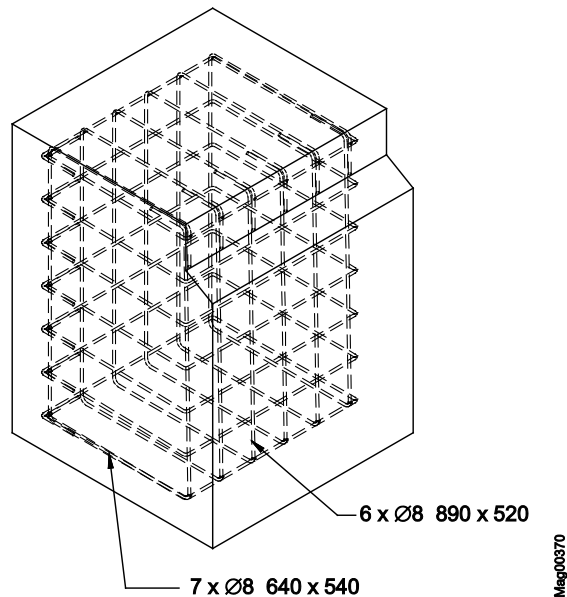

Fig. 13: Reinforcement grid Access XL2 and Access XXL
2. Place reinforcement grid pursuant to Fig. 13 in the foundation hole.